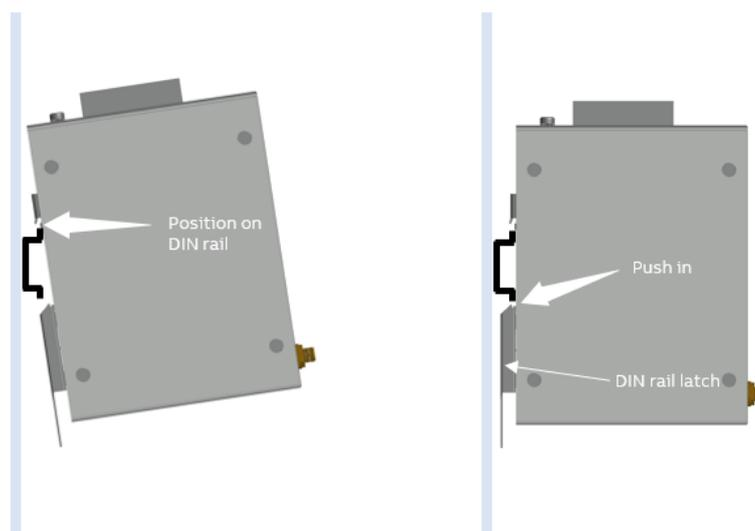

Figure 5: Installing AWIN GW100 rev.2 on the DIN rail
5. Attach the AWIN GW100 rev.2 to the mounting rail by positioning the keyway at the top of the module onto the mounting rail (see Figure 5). Then rotate the module inward until the DIN rail latch locks the module in place on the rail. Next, check that the module is fixed securely to the rail by lightly pulling outward on the module.